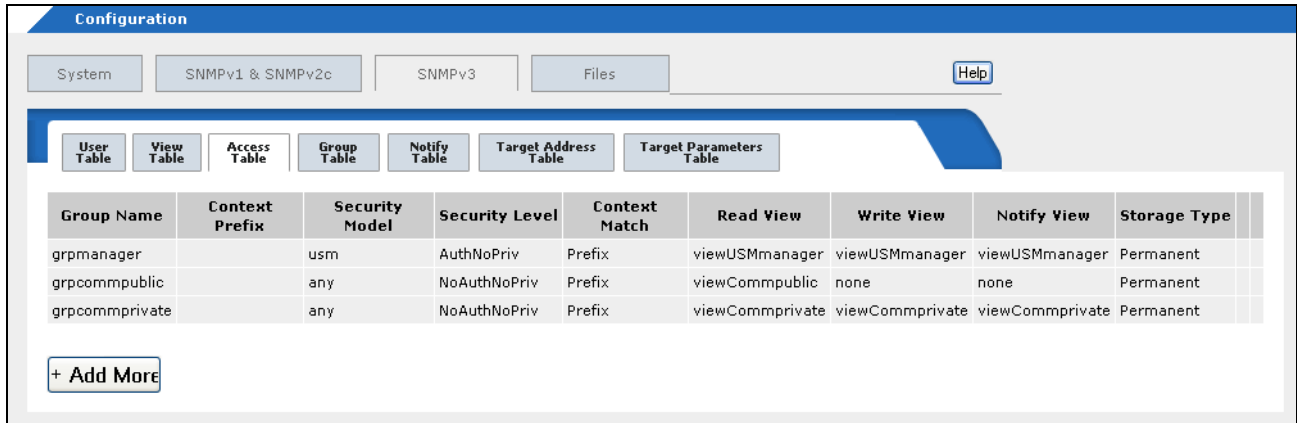

Figure 129. SNMPv3 Access Table Tab
- Click the **Configuration** button in the menu bar and then select the **SNMPv3** tab and the **Access Table** tab. The SNMPv3 Access Table tab is shown in Figure 129.